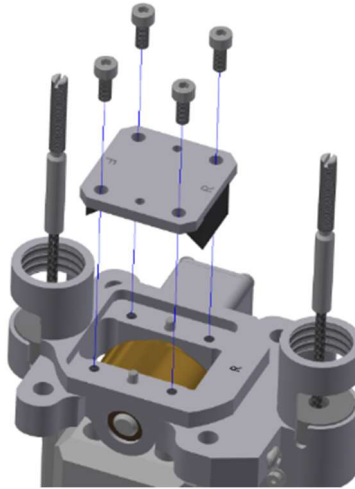

Figure 4-9. Remove the Flexion/Extension Stop Assembly (474-2115-A) by removing 4 M3 X 0.5 X 8 FHCS
- 4.2.3 Remove the Flexion/Extension Stop Assembly (474-2115-A) by removing four M4 X 0.7 X 10 LG. SHCS (Figure 4-9).